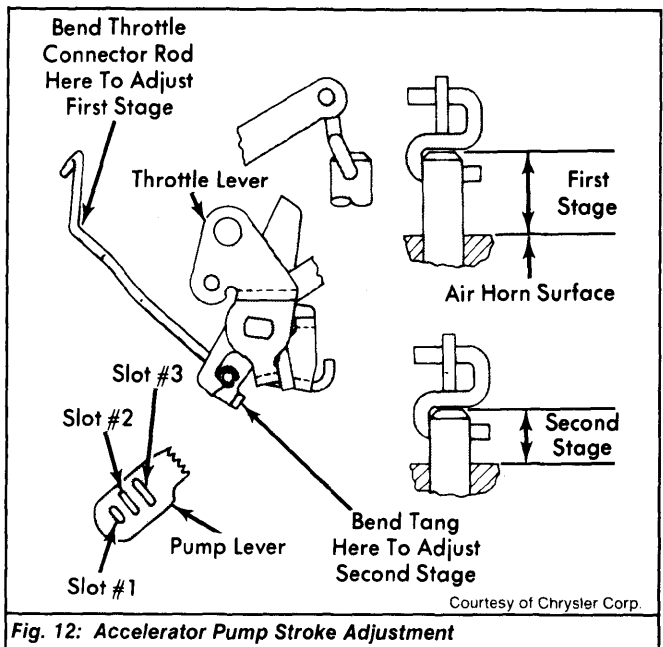

Fig. 12: Accelerator Pump Stroke Adjustment
2) If measurement is not to specification, adjust plunger height by bending throttle connector rod. See Fig. 12.